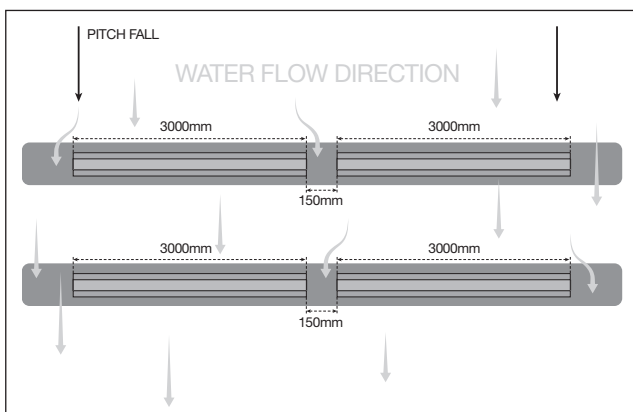

Figure 5
- If EJOBARS are installed perpendicular to water flow, the minimum gap between bars is 150mm - **see figure 5.**